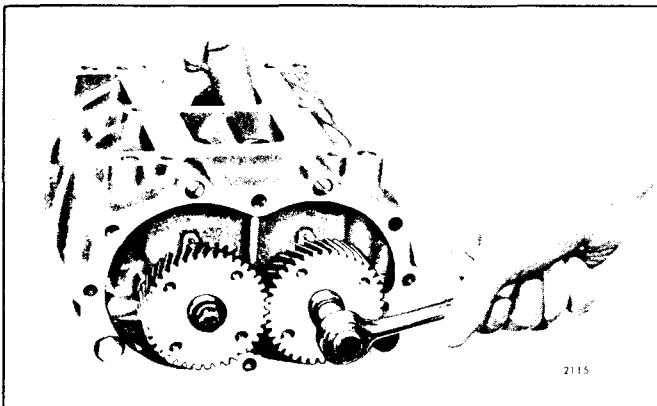

Fig. 13 - Installing Blower Rotor Gears
10. Wedge a clean cloth between the blower rotors. Use the gear retaining bolts and plain washers to press the gears on the rotor shafts (Fig. 13). Turn the bolts uniformly until the gears are tight against the shoulders on the shafts.